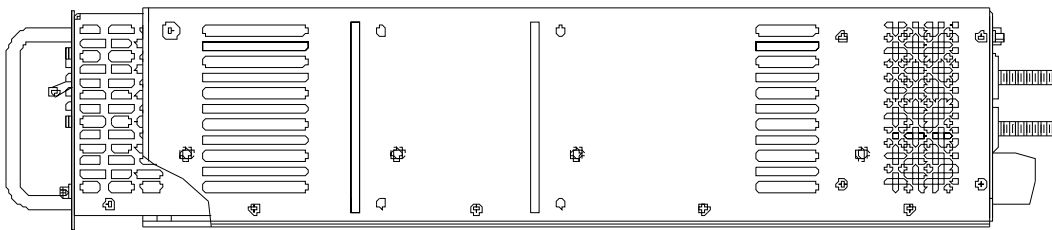

FIGURE 5. MODULE INSERTION, STEP D
- D. Continue to apply upward pressure while inserting module until the front-most pair of plastic feet clear the front lip of the rack adapter, then release the upward pressure and allow the module weight to be fully supported by the four feet (see Figure 5)